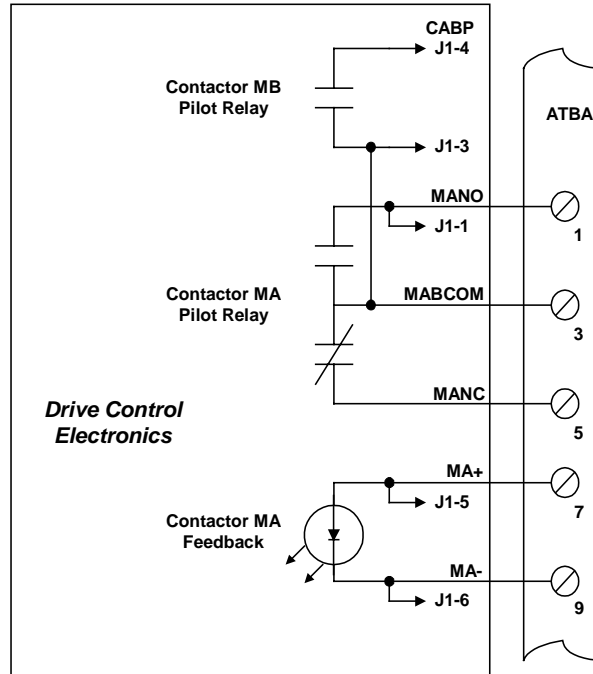

Figure 4-6. Contactor MA and MB Pilot Relay Connections on ATBA and J1
The MA relay has a common (COM), normally open (NO), and normally closed (NC) line, identified on the board and elementary labels (for example, *MANO*). The MB relay only has a NO contact. The normally open contacts of both relays are wired to the J1 backplane connector (refer to Figure 4-6). The MA relay's NO contact is also wired to ATBA (MB is not wired to ATBA).